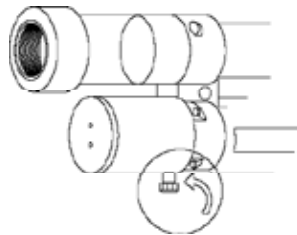

fig. 7b
- 2) Screw the cap head onto the screw until the machine is completely reset (fig. 7b);